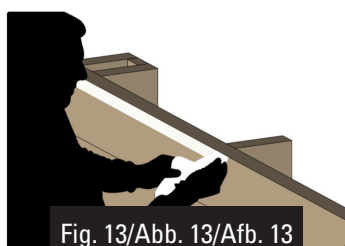

Fig. 13/Abb. 13/Afb. 13
- Stick the two-faced adhesive tape panel by panel, aligning it with the upper part of the top boards (figure 13). If the wood is slightly humid and dusty, it can be smoothened using sandpaper to facilitate adherence.